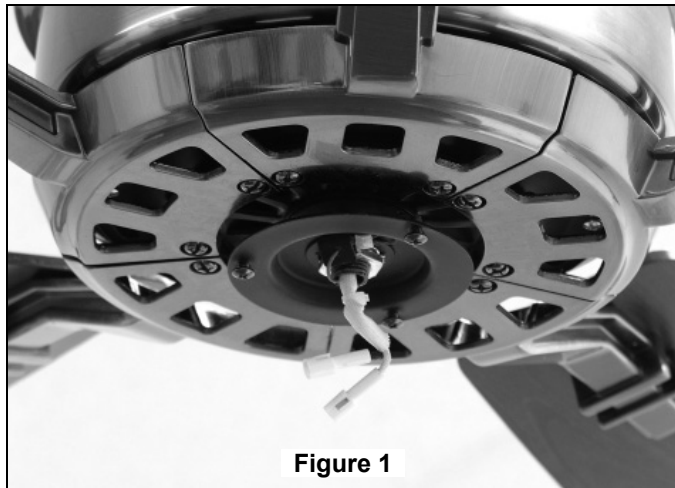

Figure 1
1. Remove and discard the (steel) motor “stops” by removing the five screws. (Figure 1)
1. Loosen two screws and remove one screw from support flange. (Figure 1).